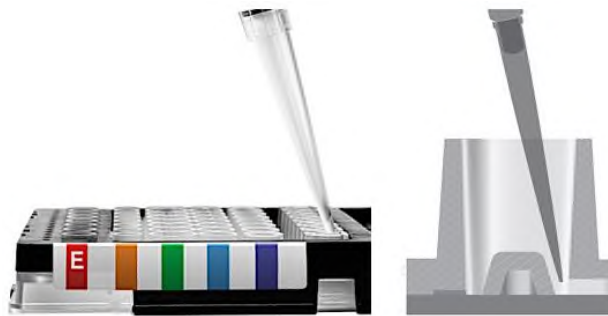

Figure 10. Sample recovery technique
3. Set a 200 μL pipette to 200 μL . While using the thumb/forefinger to reinforce the seal on the well in Column 5, aspirate slowly from the bottom right side of the Sample Well of the non-initiated sample where the well and channel meet (see **Figure 10**) and transfer to a new microtube.